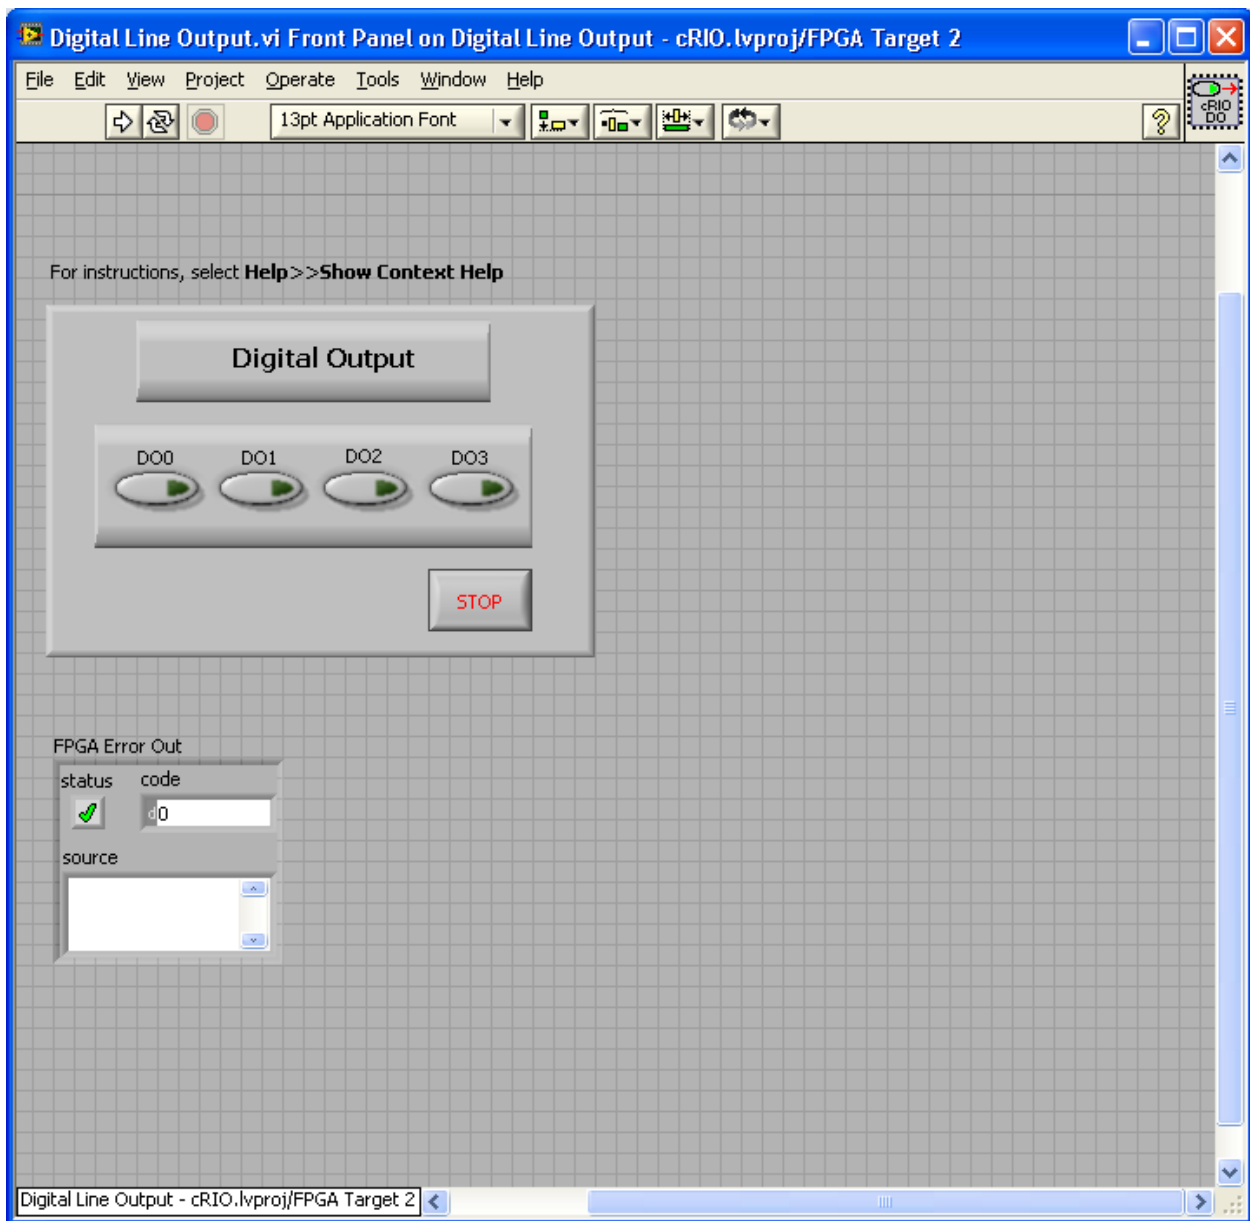

Figure 6 - Digital Line Output.vi
5. Double Click Digital Line Output.vi and the VI will appear as shown in Figure 6: